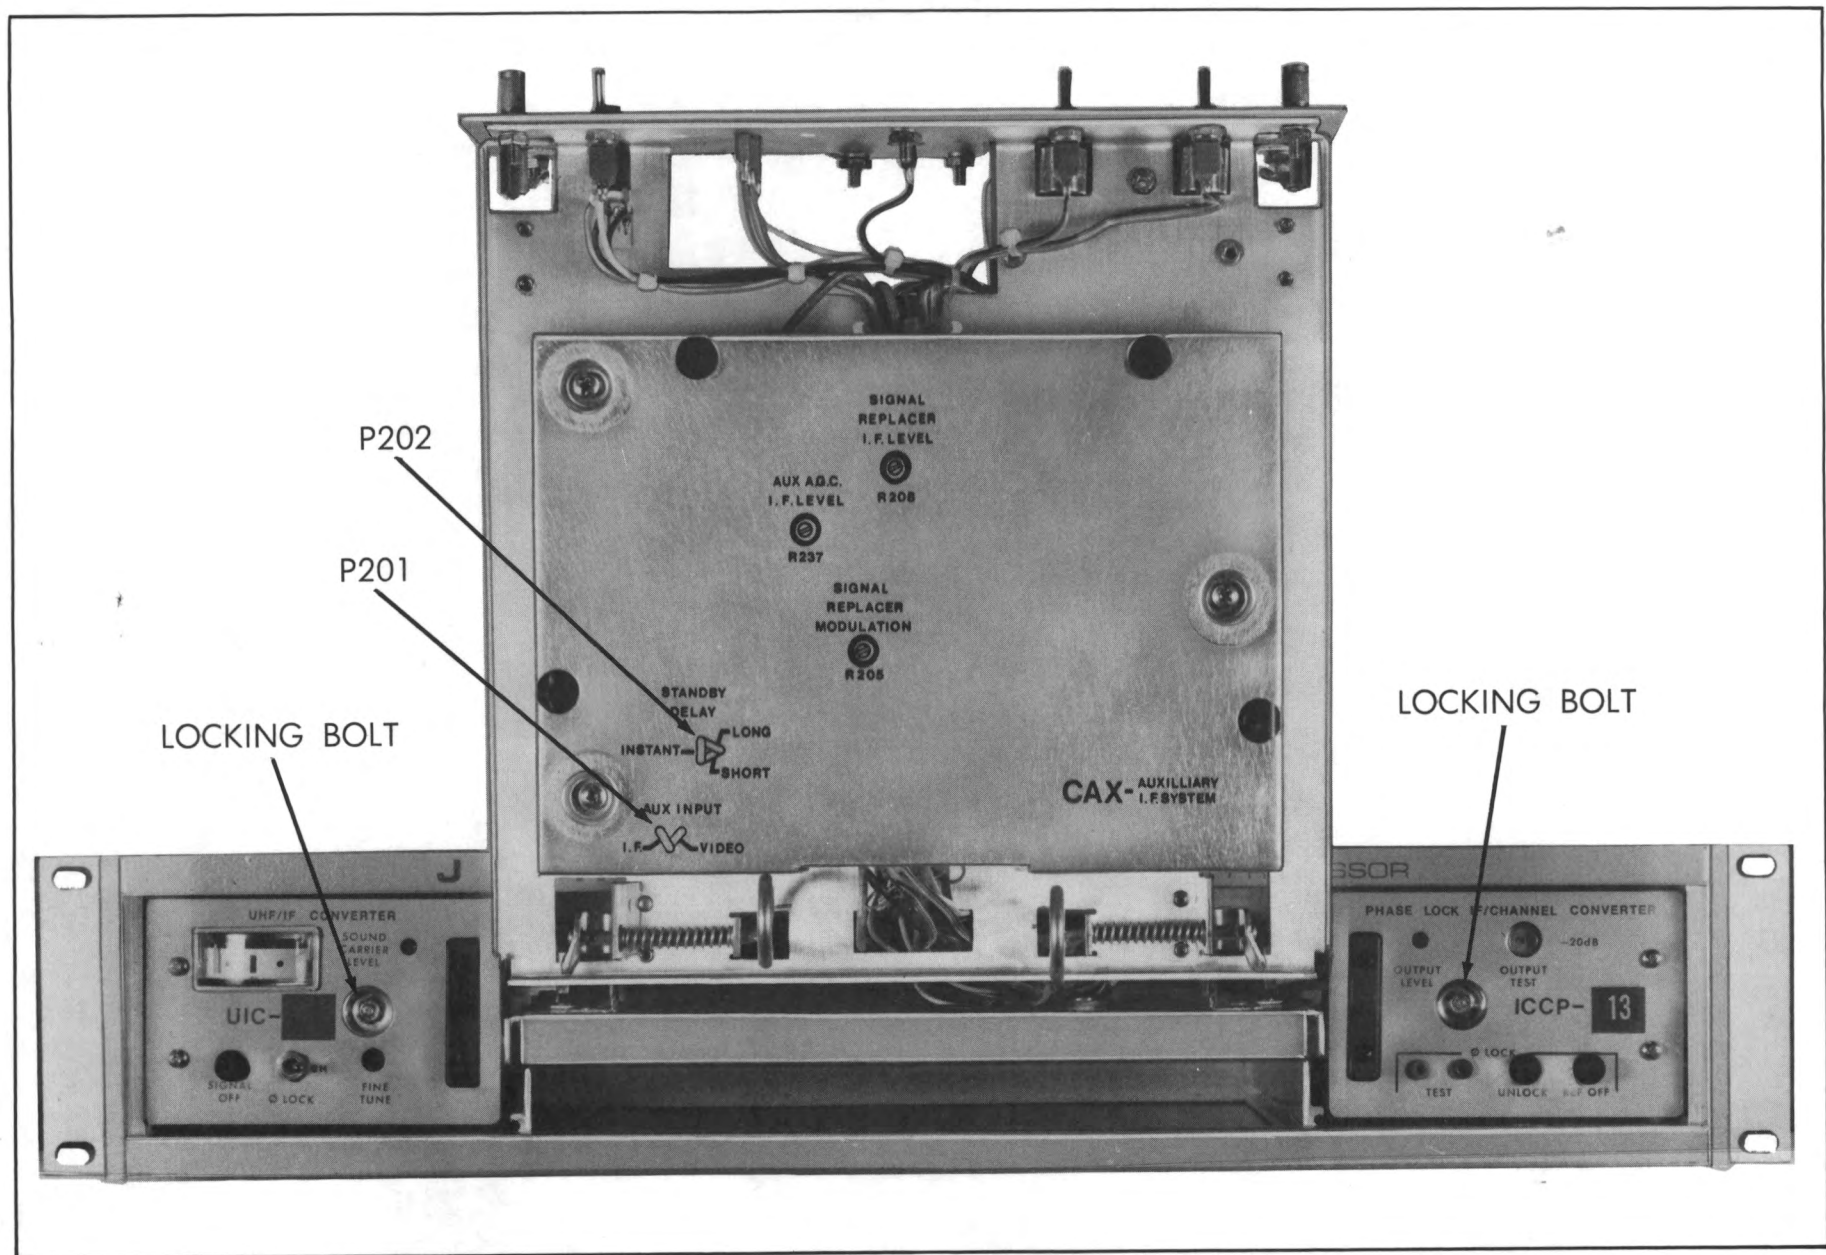

Fig. 5 PROCESSOR WITH PULLED AND FLIPPED-UP CENTER DRAWER
- 4.2 Remove the module from the Processor main frame, using a 1/4" nut driver on the locking bolt (see Fig. 5) and pulling the module straight out. The switch is to be set to EXT for on-channel operation, or to INT for off-channel operation. Then return the module to the operating position and lock it to the main frame.